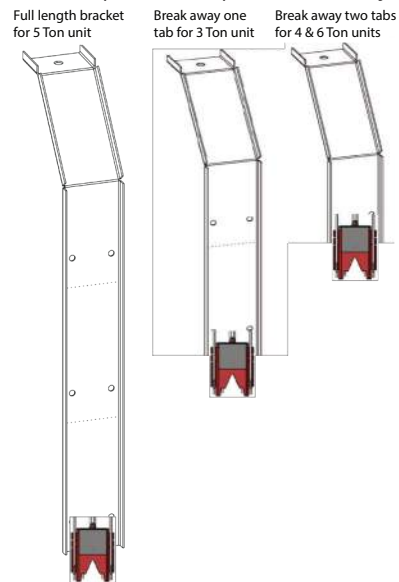

FIGURE 5A
6. Modify the mounting bracket as follows (See Figure 5A):